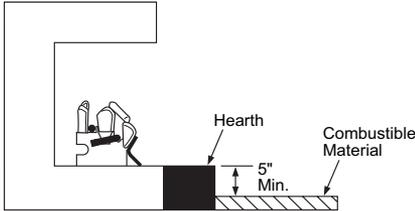

Figure 8 - Minimum Fireplace Clearances Above Combustible Flooring
- B. If combustible materials are less than 14" to fireplace, you must install appliance at least 5" above combustible flooring (see Figure 8).